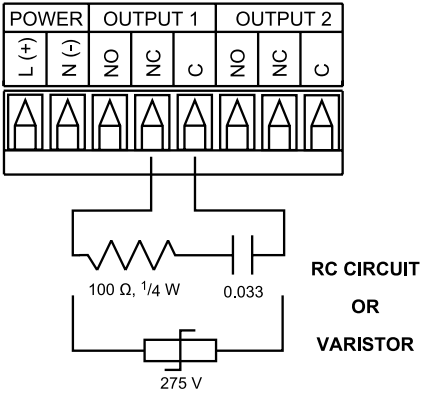

Figure 2.10
Note ^{ESR} If you have an inductive load connected between Common (C) and Normally Closed (NC) contacts of the mechanical relays and you want to protect them from the rush current during the switching period, you have to connect an external snubber circuit between Common (C) and Normally Closed (NC) contacts as indicated in **Figure 2.10**.